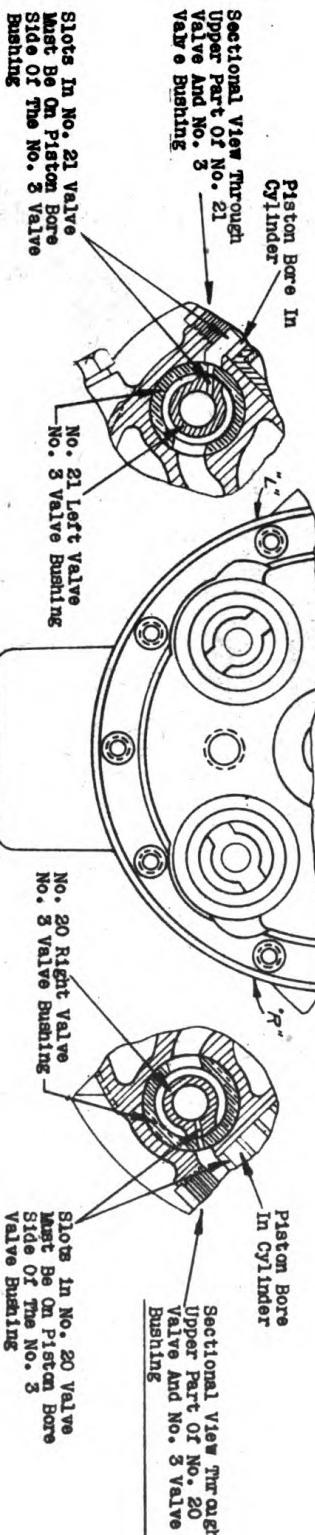

FIGURE 4
1. If the inside surface of the No. 3 valve bushing or the outside surface of the No. 20 or 21 valve is slightly corroded or scored, lubricate the No. 20 or 21 valve with OE-10 oil and then insert it into its corresponding right or left No. 3 bushing in its correct position as shown in Figure 4, Illustration No. 6.
3. Insert the valve into its correct position in the No. 3 right or left valve bushing. (See Figure 4, Illustration No. 6, for correct location of No. 20 or 21 valve in No. 3 bushing.)